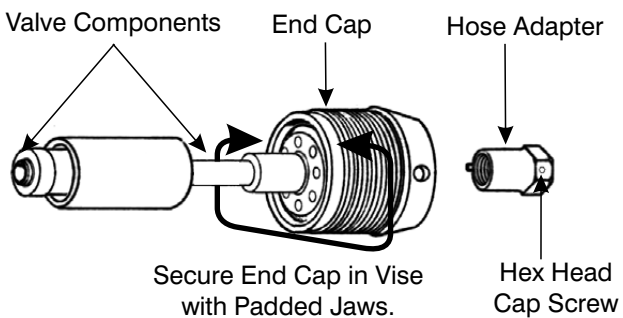

Figure 8-18. Remove Hose Adapter from the Valve Stem
- c. Use a 3-inch open-end wrench to loosen the Hose Adapter (15) on the Valve Stem (8).
- d. By hand thread the Hose Socket (15) from the Valve Stem (8) as shown in Figure 8-18.